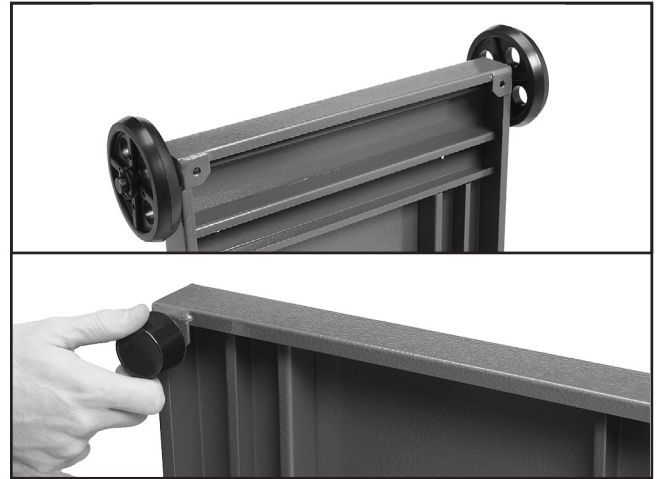

Figure 6. Installing wheels and feet.
1. At the end of the base with the axle holes, insert the axle into the base (see **Figure 6**).
4. Thread the two rubber feet into the base (see **Figure 6**).